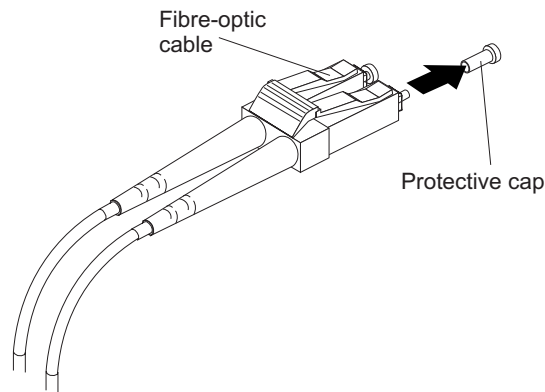

Figure 33. Removing fiber-optic cable protective caps
3. Remove the two protective caps from one end of the LC-LC cable, as shown in Figure 33 on page 53. Save the protective caps for future use.